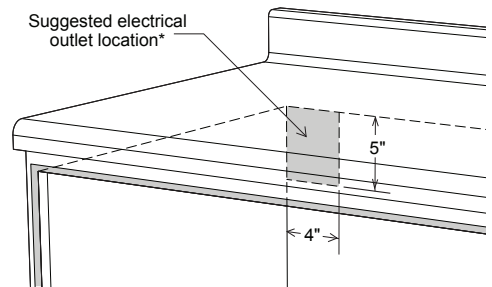

Figure 6
- Dimensions that are shown in Figure 3 (standard installation) or Figure 4 (flush installation) must be used. Given dimensions provide minimum clearance. Locate electrical outlet in the shaded area in the upper left-hand corner of the cutout. See Figure 6.